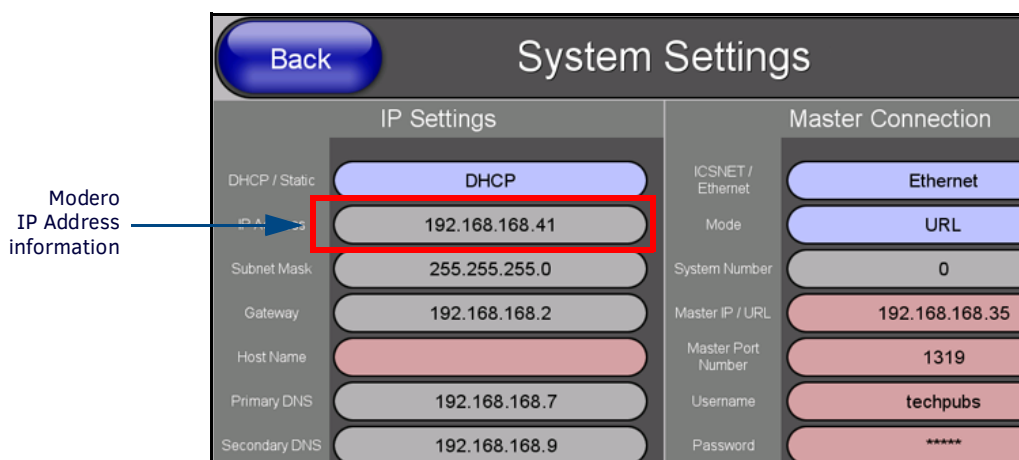
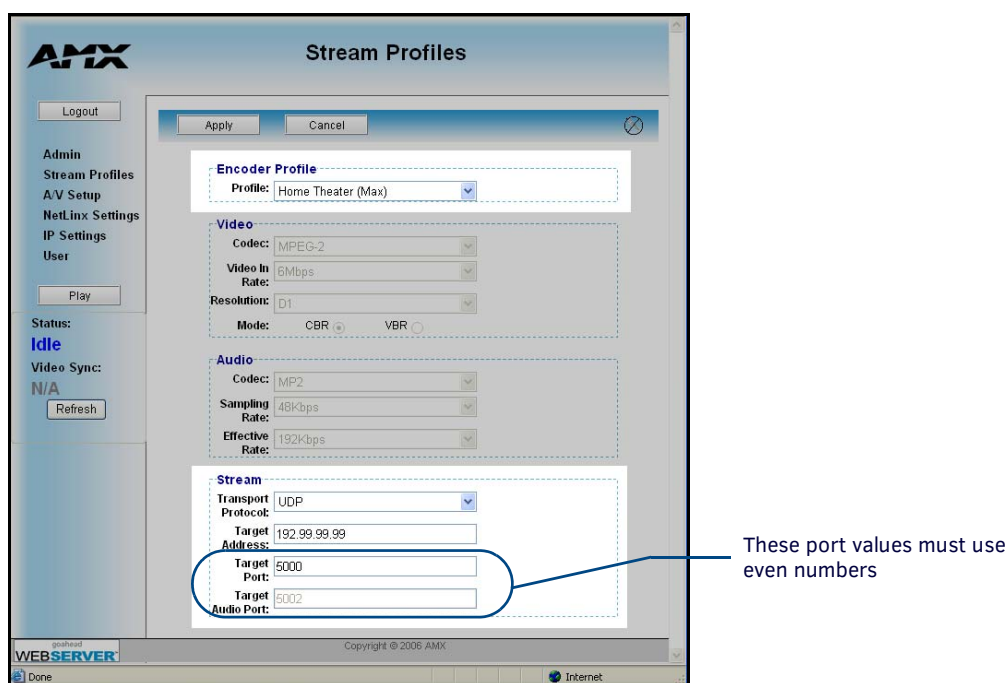

FIG. 131 System Settings page
FIG. 133 Stream Profiles page (showing a sample configuration)
4. Press the **System Settings** button (located on the Protected Setup page) to open the System Settings page and obtain the IP information from the *IP Address* field (FIG. 131).
9. Click the **Apply** button to save the encoding profiles to the MAX (FIG. 133).
10. From the Stream section of the page, locate the *Transport Protocol* field and use the drop-down arrow to select a desired protocol. For the purposes of these procedures, we've chosen **UDP** as the protocol (FIG. 133).
11. Enter the previously obtained IP Address of the target Modero panel (FIG. 131) into the *Target Address* field (FIG. 133).
For the purposes of these procedures, we are not required to enter a Target Audio Port value because the A/V content is not begin streamed separately (FIG. 133).